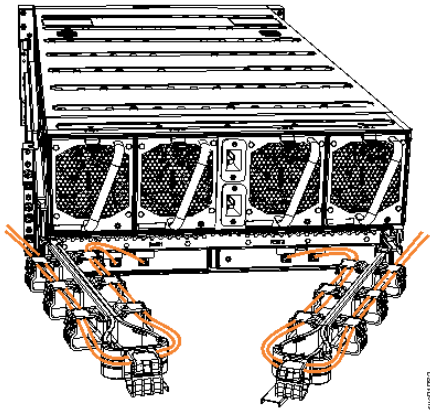

Figure 157. Example of SAS cables routed through the cable management arms
8. Route the SAS cables through the cable management arms, as shown in Figure 157 on page 200.